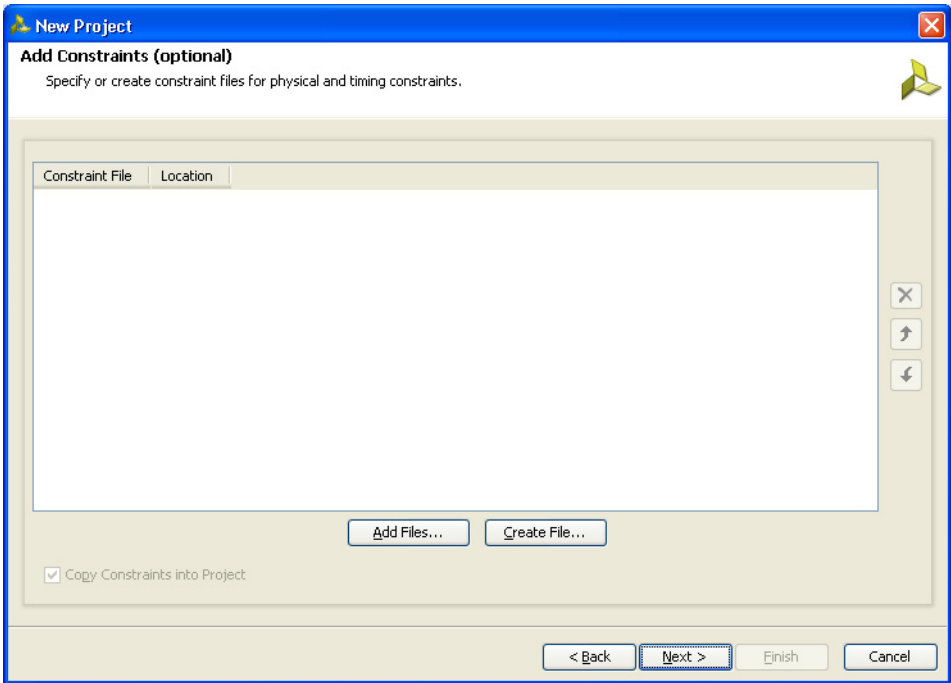

Figure 3-7: Add Constraints (Optional)
7. Click **Next** to open the Add Constraints (Optional) page (Figure 3-7). If the constraints file exists in the repository, it can be added to the project. Proceed to the next page if the constraints file does not exist.